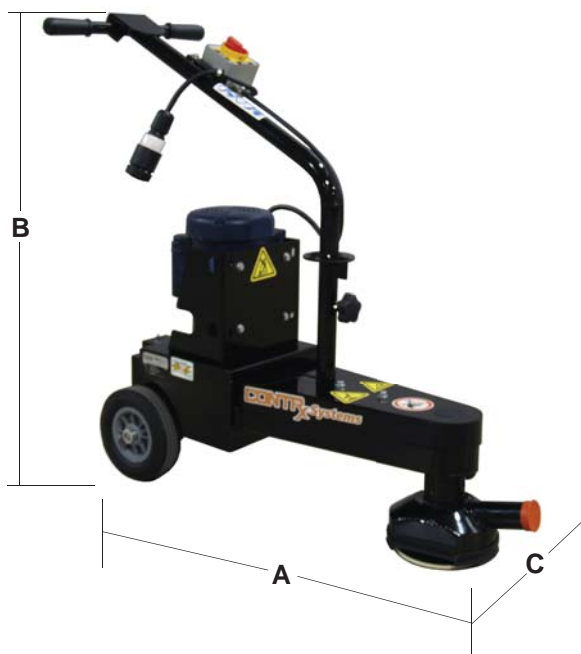

Figure 1
- To gain access to the disc, push down on the handle in the rear optional *Figure 1*) and pivot the unit back on the wheels until it comes to rest on the handle. (The belt tensioning bolt is also visible from this position.)